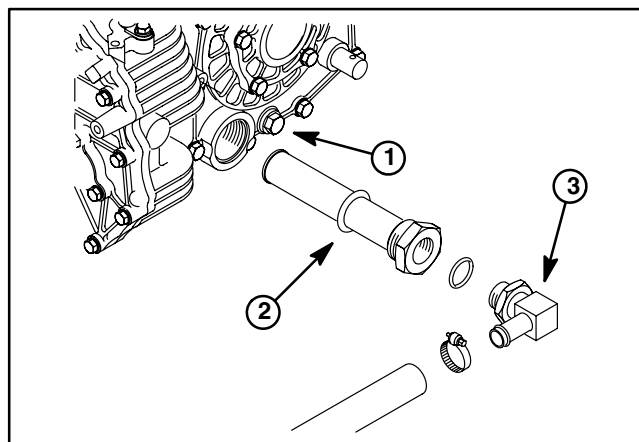

Figure 14
3. Remove drain plug from bottom of transaxle (Fig. 14) and allow oil to drain into a drain pan. Install drain plug.
4. Note orientation of 90° fitting connected to strainer on side of transaxle. Remove hydraulic hose and 90° fitting from strainer (Fig. 14).